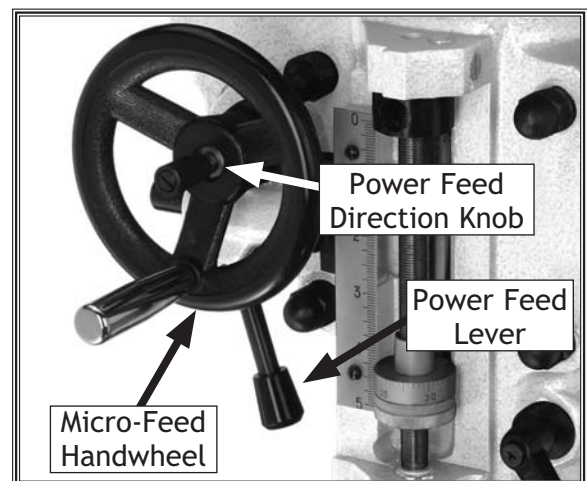

Figure 31. Quill micro-feed handwheel.
The micro-feed handwheel is used to accurately control the quill depth (**Figure 31**).
3. Turn the mill **ON** and move the power feed direction knob to the neutral position (see **Figure 31**).
4. Engage the power feed lever (**Figure 31**) by pulling it to the left.
5. Turn the micro-feed handwheel (**Figure 31**) clockwise to feed the quill down, counterclockwise to feed the quill up.